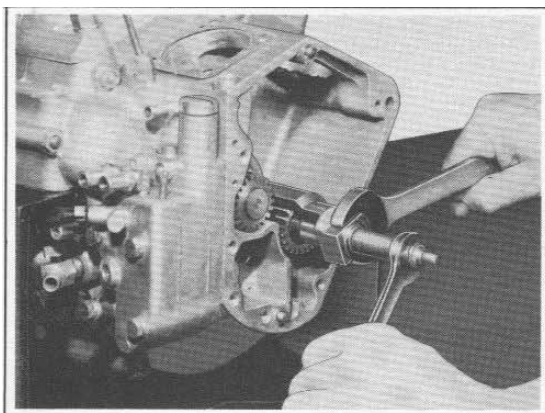

Figure 3-25. Pulling Pinion Gear
1. Remove oil screen cap (1), O-ring (2), screen spring (3) and screen (4).
4. Tap gearcase cover with wood or rawhide mallet to loosen and remove gear cover (16) and gearcase cover gasket (17).
5. Remove breather gear spacing washer (18) and breather gear (19).
6. Remove cam gear (20), spacing washer (21), and thrust washer (22).
7. Remove pinion gear shaft nut (23) which has a left-hand thread. Use Gear Shaft Nut Socket Wrench, Part No. 94555-55A. Pull pinion gear (24) using Pinion Gear Puller and Installer, Part No. 96830-51 as shown in Figure 3-25. Tool has lefthand threads.
8. Remove key (25), gear shaft pinion spacer (26), oil pump pinion shaft gear (27) and key (28).
9. Use a lock ring pliers such as Snap-On No. Pr129A and remove oil pump drive gear shaft lock ring (29), drive gear (30) and drive gear key (31).